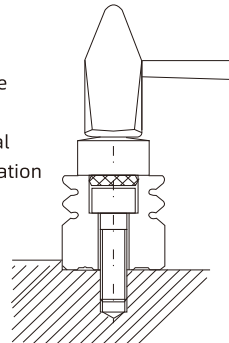

Figure 2
- 3) Use a cap to plug the installation hole of the guide rail, so that the installation hole surface is on the same plane as the top surface of the guide rail, which can prevent debris from entering into the slider. The installation method of the hole cap is shown in Figure 2. Using a metal flat plate, use a hammer to gradually tap the hole cap into the installation hole until it forms a plane with the top surface of the guide rail.